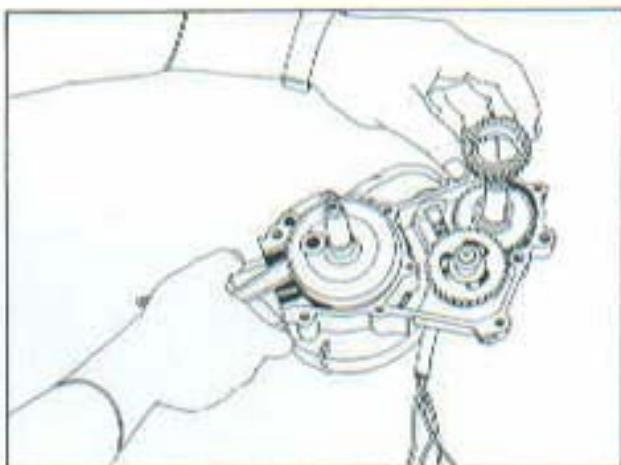

FIG. 14
- a) Remove driving gear (28 teeth) from output shaft - Fig. 14